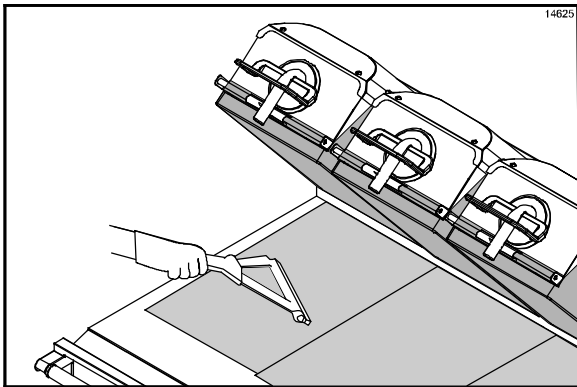

Figure 31
4. Carefully squeegee the air bubbles from center to side, making sure the release sheet does not become folded or creased. (See Figure 31.)